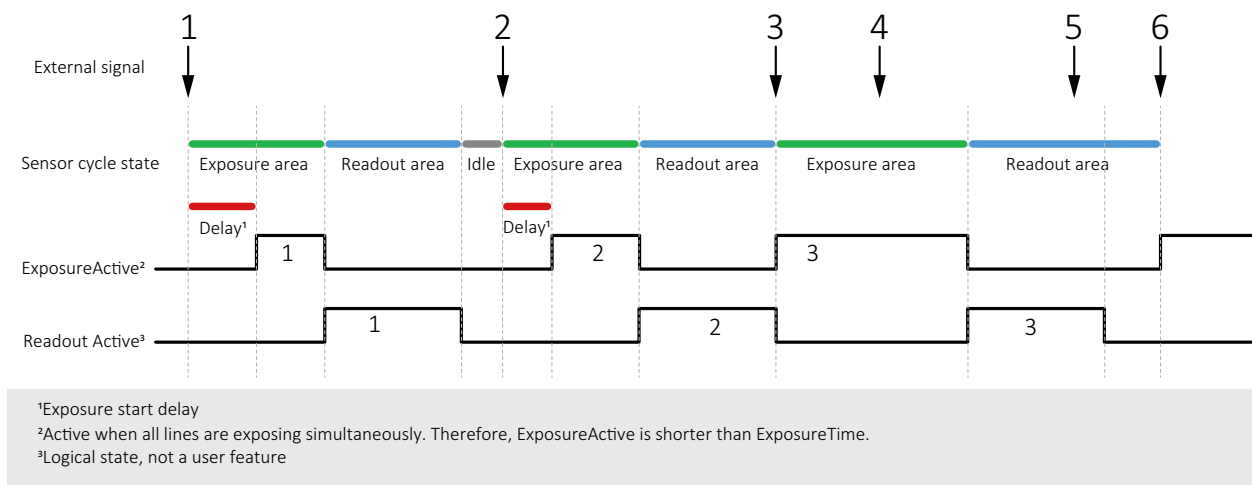

Figure 119: Triggering rolling shutter (RS) cameras
Figure 119 shows how an external signal triggers exposure and readout for cameras with rolling shutter (RS) sensors. Like for global shutter (GS) sensors, readout has a constant duration, acquisition must be active to enable exposure, the end of exposure starts readout.